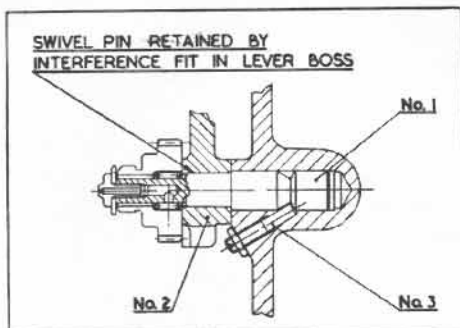

Fig. 38
Reference to Fig. 38 will show that the tumbler reverse assembly is supported on the headstock by a long swivel pin (1) which is a press fit in the tumbler reverse lever (2). The assembly is retained in position by the thrust screw (3) which draws the tumbler reverse lever back against the pivot boss facing on the headstock.
**NOTE.** It is important that the thrust screw (3) be set with light pressure only. Heavy pressure may extract the swivel pin (1) from its position in the tumbler reverse lever.